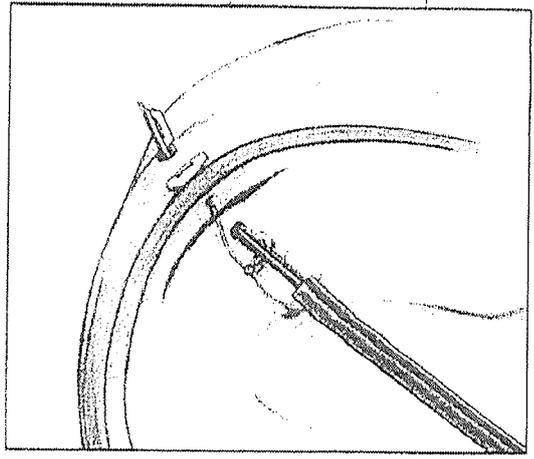

Figure 8. Implant 2 ready for release
- For a horizontal repair, insert the needle between the entry point and the first implant, approximately 4-5 mm inferior from implant 1 (Figure 8, Photo 8).
- For a vertical repair, insert the needle approximately 4-5 mm inferior from implant 1 (Figure 8, Photo 9).